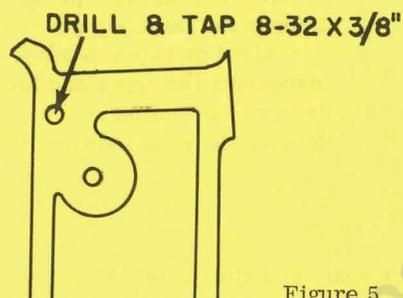

Figure 5
8. Turn the saw over and locate the upper cover dowel pin hole in the reservoir flange. Use a #29 drill to enlarge this hole to a depth of $3/8$ ", and tap the full depth of this hole with a 8-32 bottoming tap. (Figure 5)